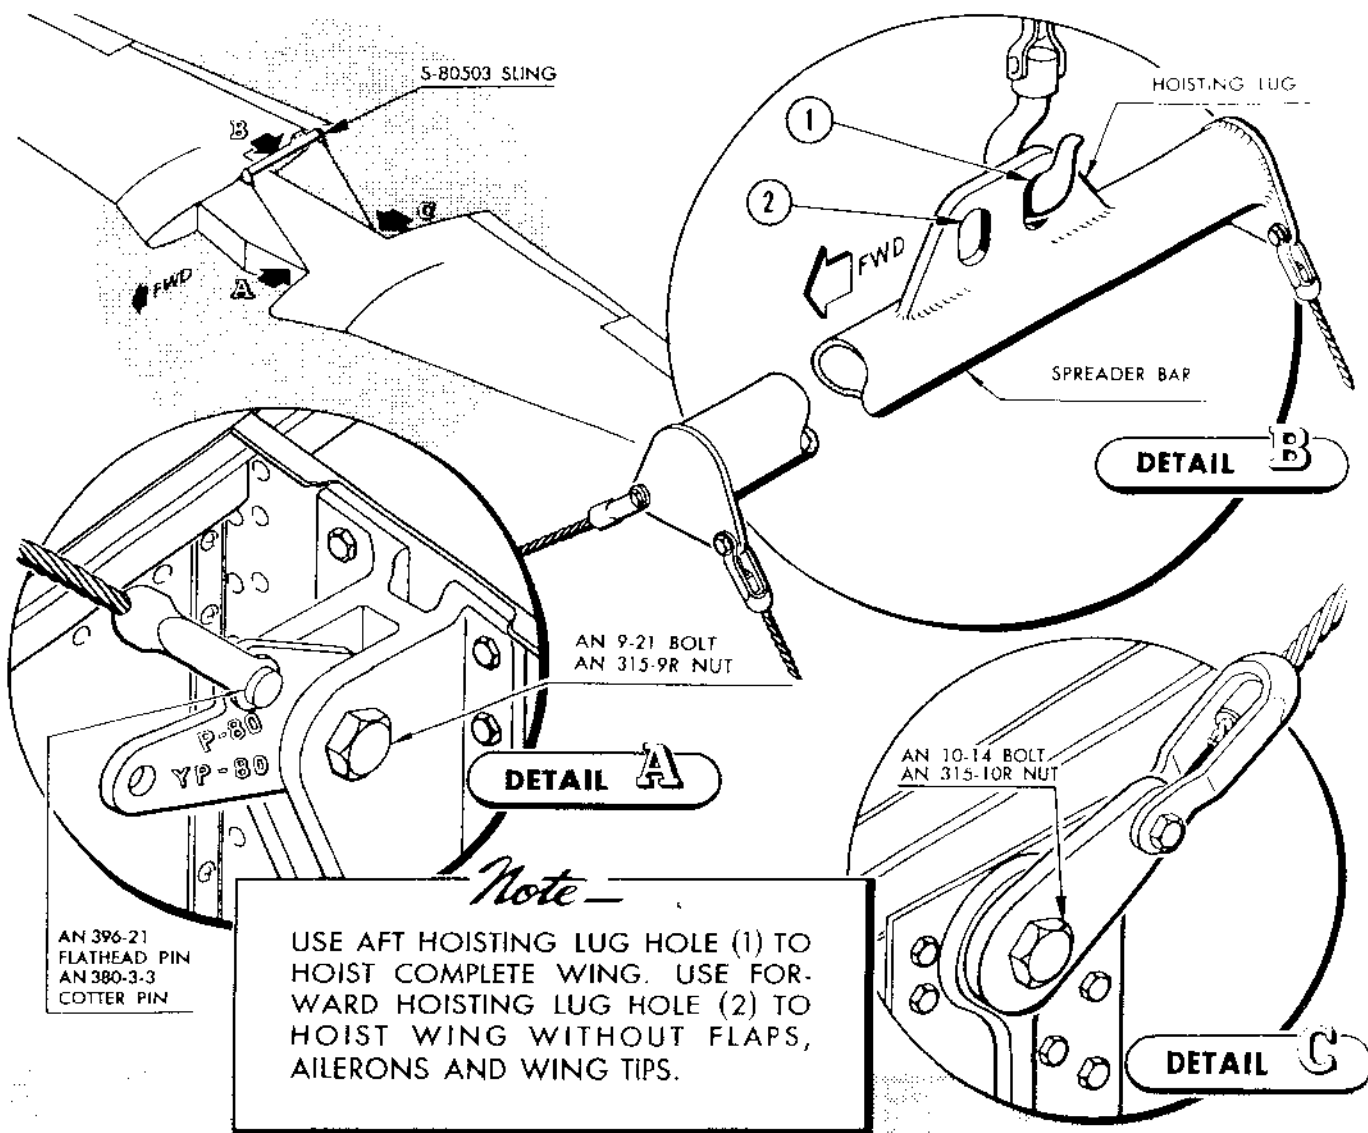

Figure 12 — Hoisting the Wing
(6) **HOISTING THE WING.** (See figure 12.)—Hoist the wing with sling No. S-80503. Place the spreader bar so that the hoisting lug is aft, or toward the wing trailing edge. Attach the forward cable lugs of the sling to the upper holes of the forward wing-to-fuselage attachment fittings. Be sure the cables are attached to the point marked "P-80" on the lugs. Attach the aft cable